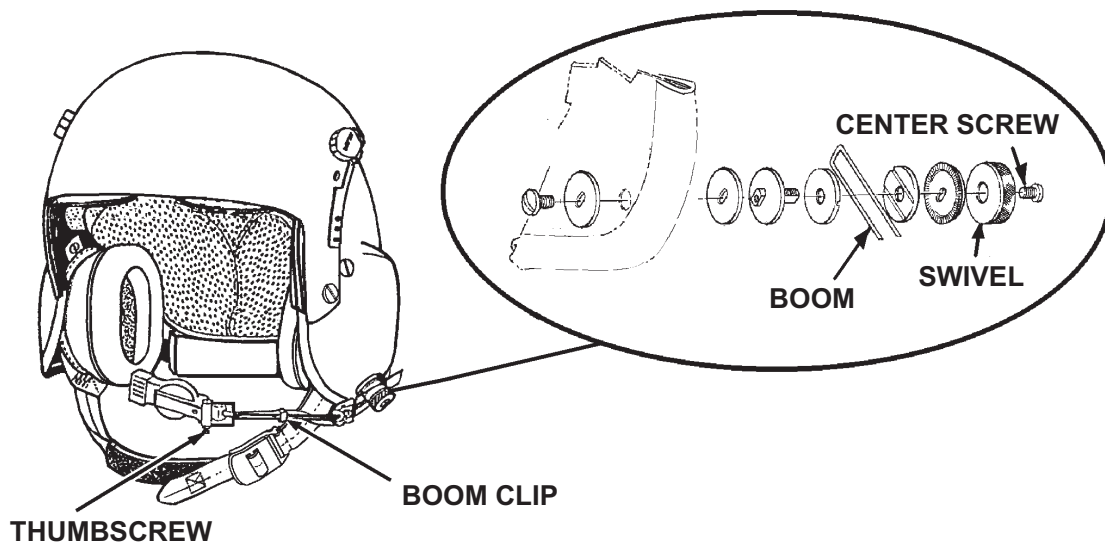

Figure 4-12. Boom and Microphone
1. Referring to Figure 4-12, remove the knurled thumbscrew attaching the microphone to the boom.
1. Referring to Figure 4-12, reassemble the hardware as shown and attach the replacement boom and microphone to the helmet with the center screw and swivel.